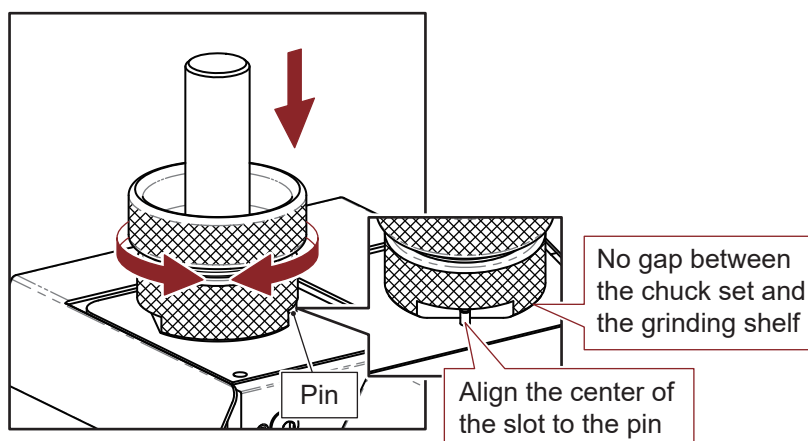

Fig. 10-2
2. Web Thinning (Fig. 10-2)
- ① Insert the chuck set into the left side web thinning grinding shelf, push the chuck set gently and turn it clockwise and counterclockwise until the grinding noise stops.
- ② Take the chuck set out, turn it to the other side and grind the drill in the same way.